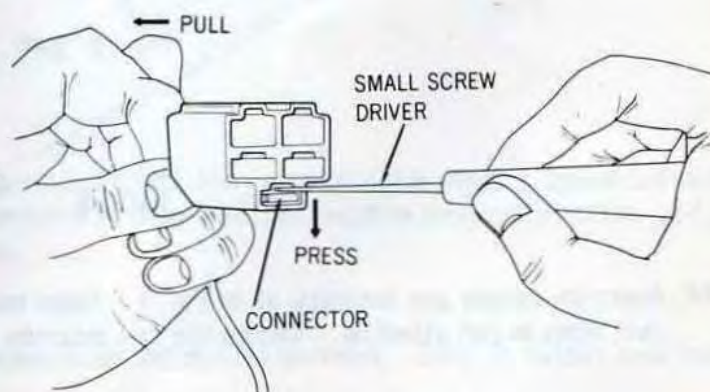

FIG. 6-2
8. Remove small voltage regulator from steering post support. Disconnect plastic male connector from yellow wire with a small knife or screwdriver by pressing down tab inside socket. See Fig. 6-2.
11. Locate plastic socket which was attached to ignition switch. Remove yellow wire from the socket as illustrated in Fig. 6-2.